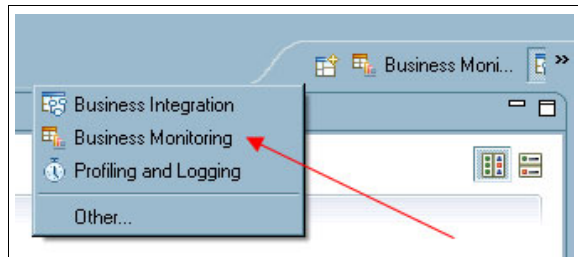

Figure 8-24 Select Business Monitoring perspective
3. Go to the Business Monitoring perspective (select Business Monitoring in the top right hand corner). See Figure 8-24.